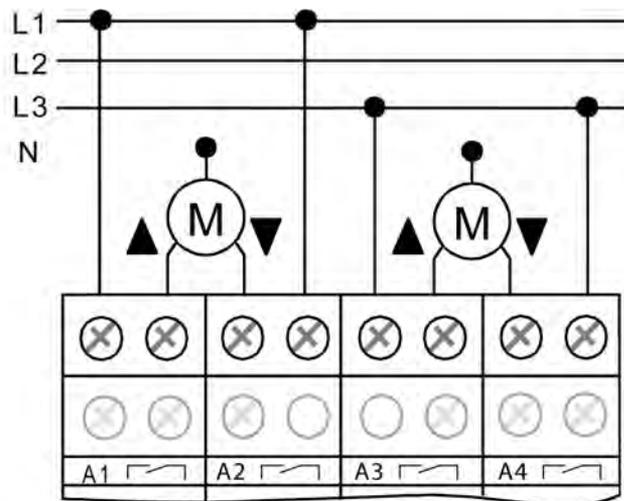

Figure 3: Electrical connection for 230 V drives in blinds operation
- Connect the drives as shown in the wiring example (figure 3).